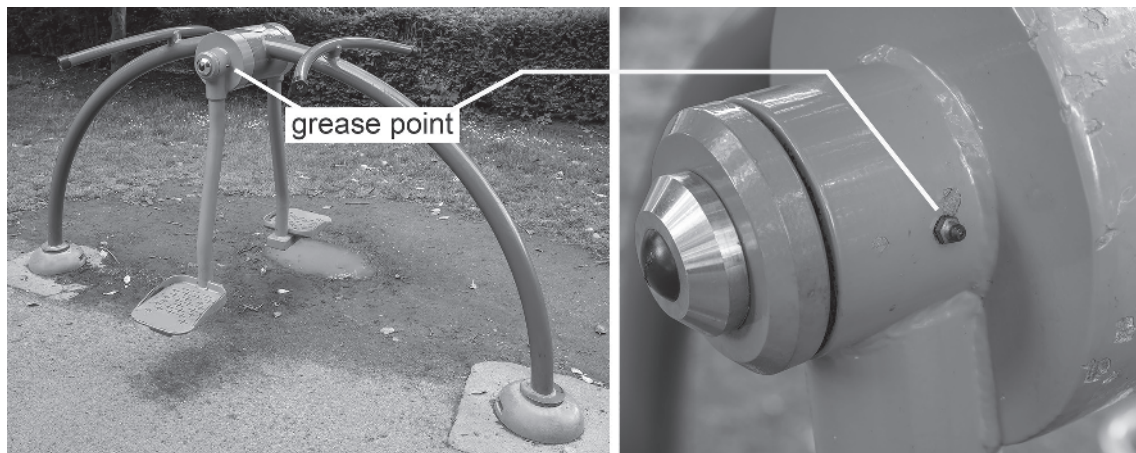

Fig. 11.2
- (iii) Fig. 11.2 shows where grease is applied to lubricate the moving parts on a different piece of exercise equipment.